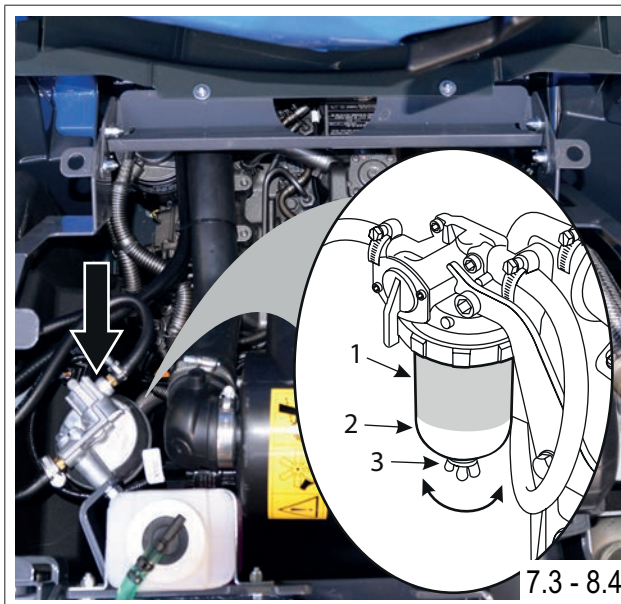
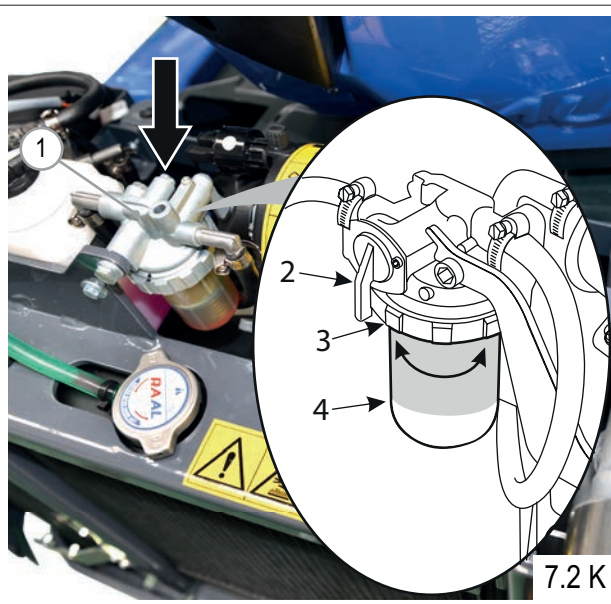
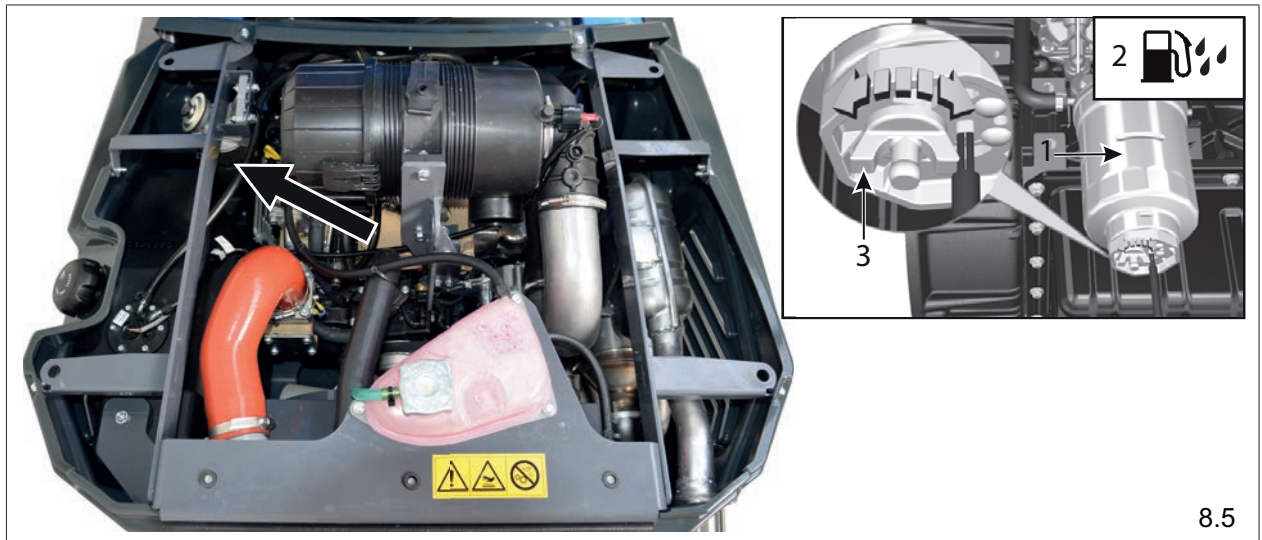

FIG. 59
FIG. 60
FIG. 61
- 4) **Yanmar engine - Model 7.2 K - 7.3 - 8.4** - Inspect the fuel/water separator (FIG. 59 and FIG. 60 - Ref. 1) for any water. Any water will be visible as a clear layer (FIG. 59 - Ref. 2 and FIG. 60 - Ref. 4) at the bottom of the filter bowl. In cold weather any water in the fuel may freeze and block the fuel system.
Kholer engine - Model 8.5 - When the separator filter light (FIG. 61 - Ref. 2) in the multifunction display is ON, water is present in the separator filter. In cold weather any water in the fuel may freeze and block the fuel system.
- Open the drain valve (FIG. 59 and FIG. 61 - Ref. 3) at the bottom of the filter bowl;
- Close the tap of the fuel/water separator (FIG. 60 - Ref. 2).
- Loosen the ring (FIG. 60 - Ref. 3). It may be necessary to use a wrench.
- Open the tap (FIG. 60 - Ref. 2).